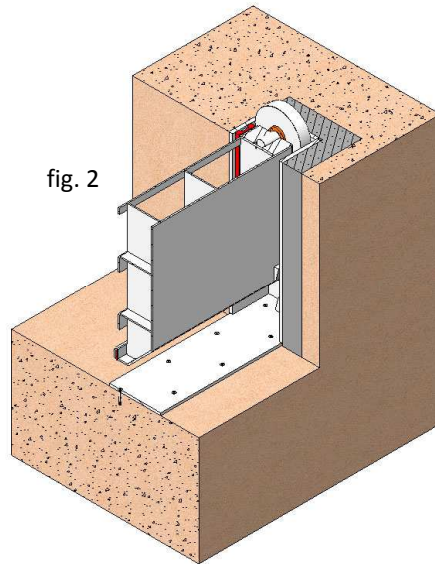
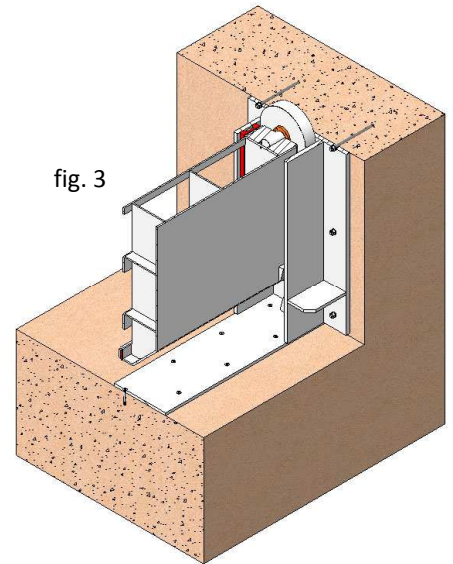

fig. 2
fig. 3
As these penstocks usually work under large volumes of water, they generate significant force and the best option to transmit these forces to the civil engineering work and therefore ensure attachment is by concreting, although other assembly options can be seen in fig. 2 and fig. 3.
- In order to mount the penstock using chemical or expansion anchors (fig. 3), follow these steps: